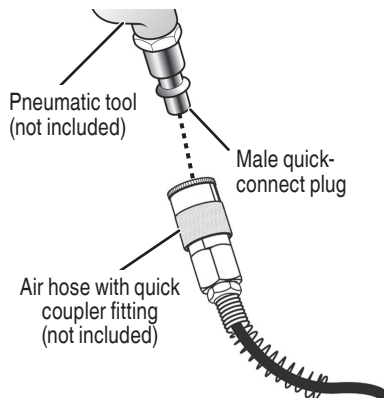

Fig. 11
- Connect the air powered tools to the air hose by inserting the male quick-connect plug to the quick-coupler at the end of the hose (Fig. 11).